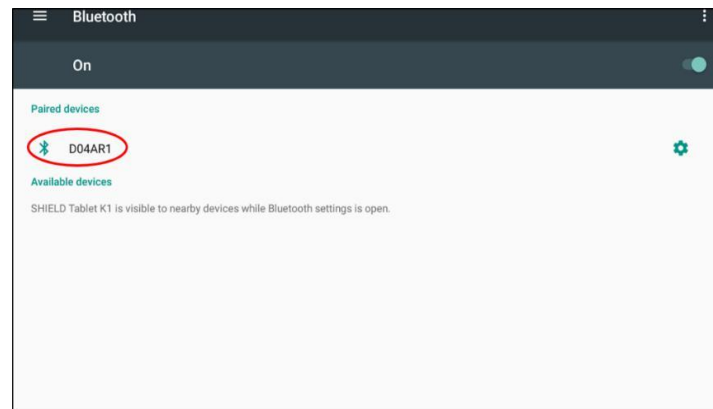

FIG. 8.5: Successfully paired devices, Due probe (D04AR1).
- Once the selected Due or DueBio probe is correctly paired, you can view it in the Associated Devices list (Figure 8.5). Repeat this operation for all the sensors you want to associate;